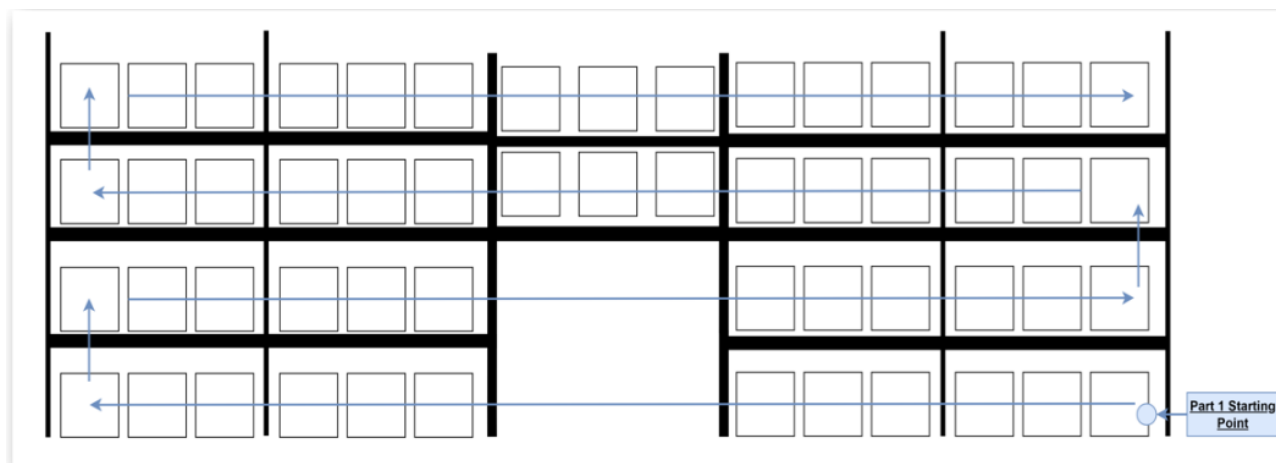

Figure 3 Recording Process
8. Drive to the end of the rack. (Figure 3 Recording Process)
9. Extend the forks until the next level is within the unit's field of view (FOV). (Figure 3 Recording Process)
10. Return to the starting location and repeat the process for the next level. (Figure 3 Recording Process)